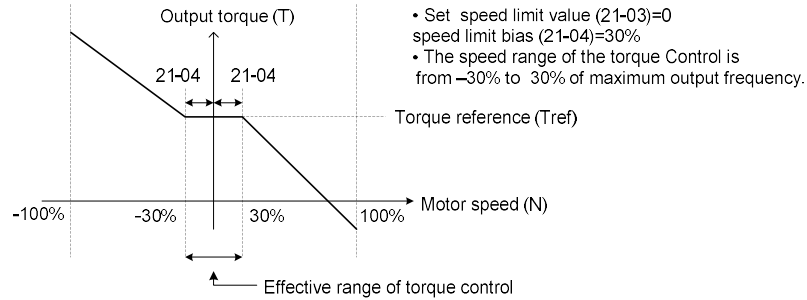

Figure 4.3.162 Speed Limit Setting
- 21-00 = 1: Torque control (21-01 to 21-08); torque control settings. Refer to Figure 4.3.162 Torque Control Block Diagram.